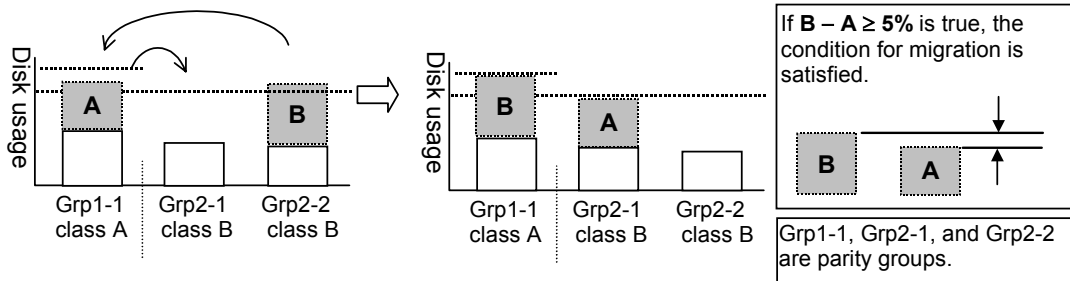

Figure 2.6 Migrating a Volume Automatically to a Lower HDD Class
As explained above, the auto migration function can move a high-usage volume to a higher HDD class group, forcing a low-usage volume out of that HDD class group. To be able to move one volume into a different HDD class group and then force another volume out of that class group, the auto migration function requires a minimum of five (5) percent difference in estimated disk usage between the two volumes (see Figure 2.6). If the difference in disk usage is less than 5%, this migration is considered ineffective, and the volume is not moved.